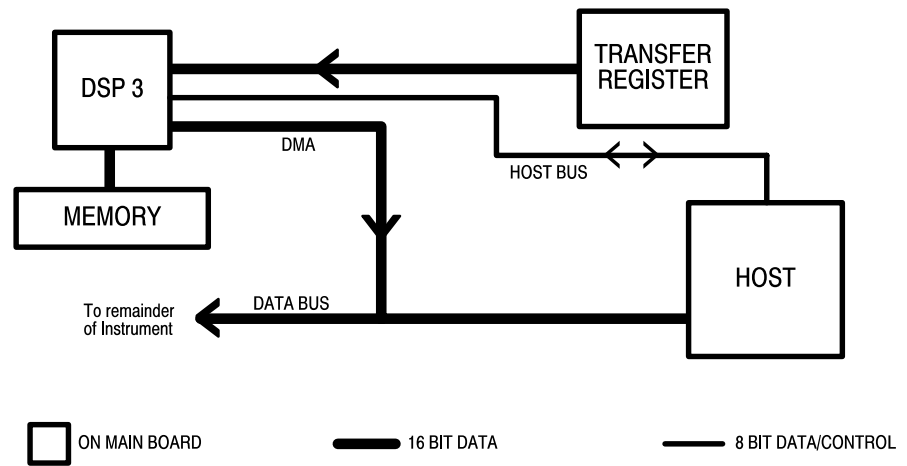

Figure 5-3: The DMA (direct memory access) test
- DMA test, DSP3 DMA (map RAM), Figure 5-3.